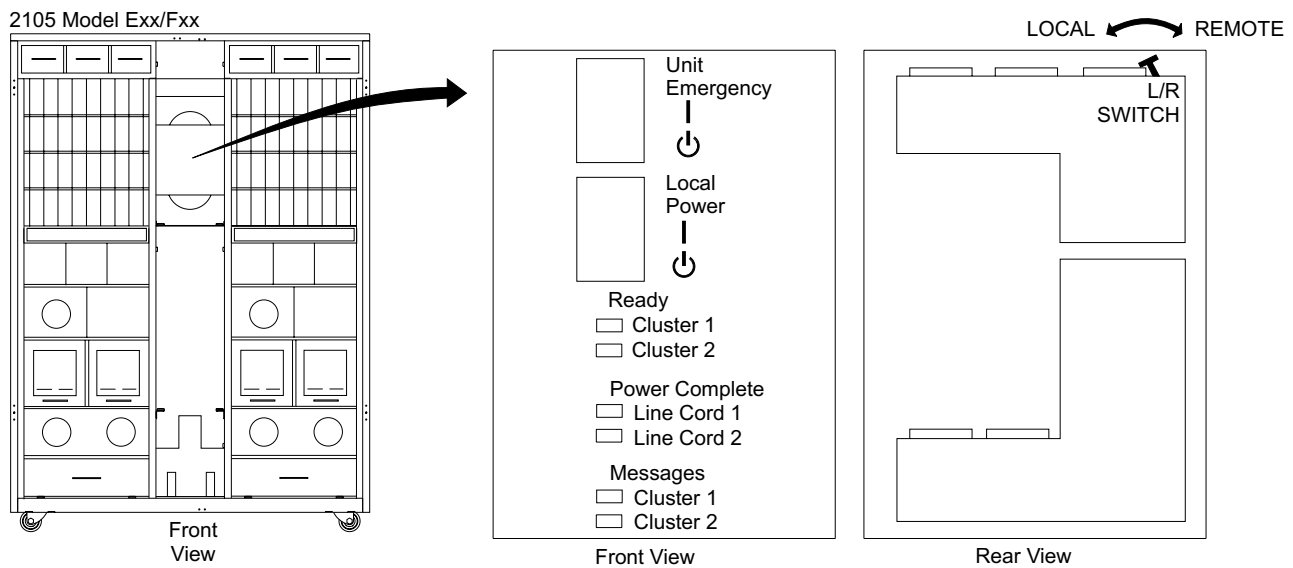

Figure 33. 2105 Model Exx/Fxx Operator Panel Locations (S008811m)
2. Set the RPC card Local/Remote power switches to Local mode (down). Attempt to power on the 2105 Model Exx/Fxx using the 2105 Model Exx/Fxx operator panel Local Power switch [Figure 33].